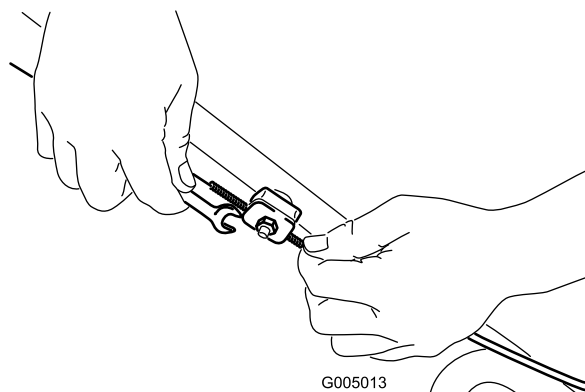

Figure 37
1. Loosen the cable support nut (Figure 37).